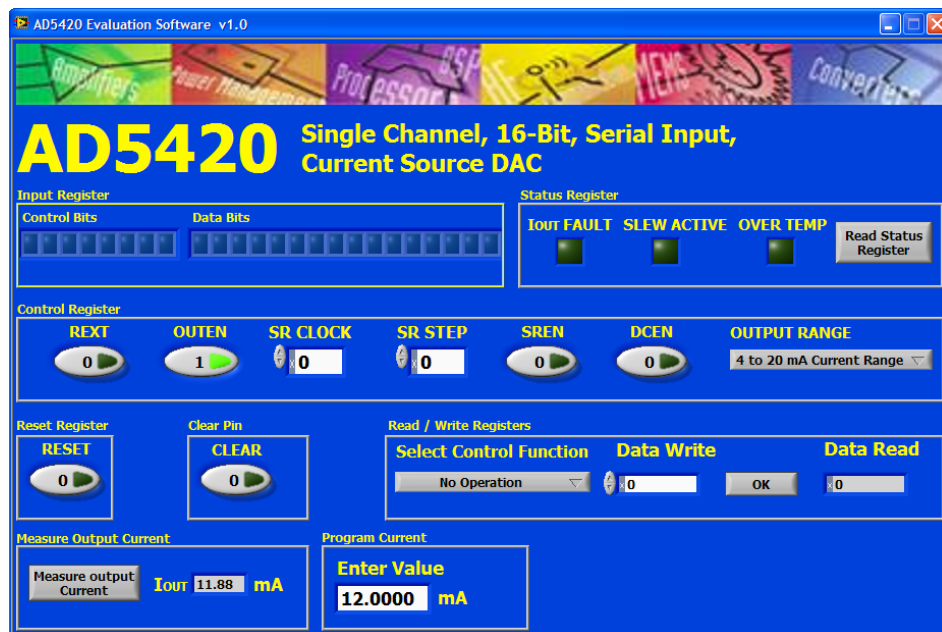

Figure 3. Main Window
1. From the **Start** menu, select **Analog Devices – AD5420**; then select **AD5420 Evaluation Software**. The main window of the software is displayed (see Figure 3).